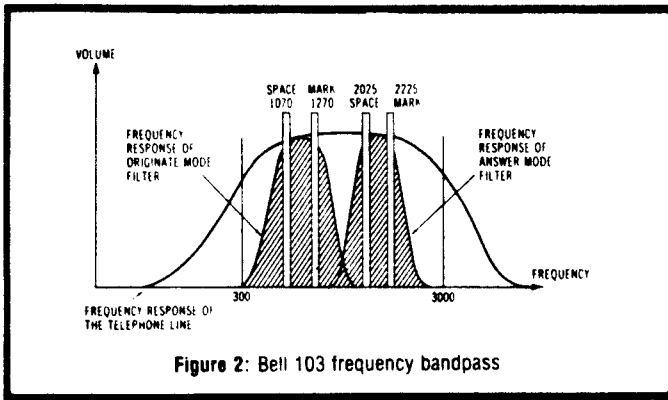

Figure 2: Bell 103 frequency bandpass
•**Bell-compatible:** Most (but not all) of the data communication standards were developed by Bell Labs and are known as "Bell standards;" i.e.: the common 300 baud standard is described as "Bell 103" (see Figure 2). Any Bell